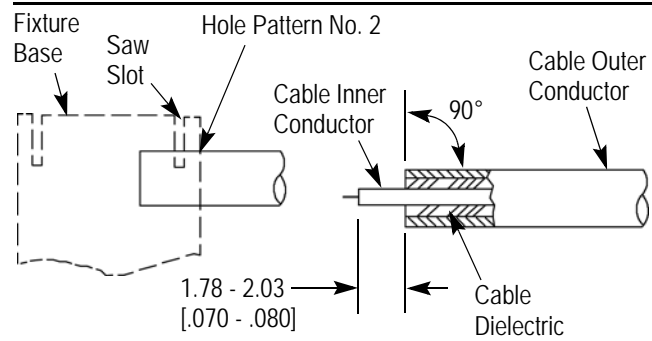

Figure 3
1. Insert the squared cable end into the fixture base hole pattern No. 2. as shown in Figure 3.
5. Complete trimming of cable inner conductor to dimension shown in Figure 3.